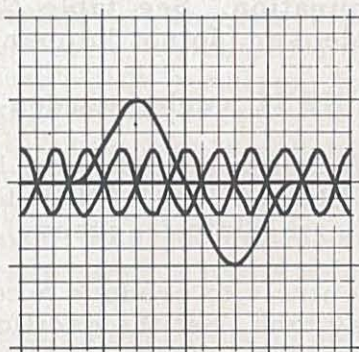

FIG. 11. DISCRIMINATOR RESPONSE - 400 CYCLE MODULATION
10. Turn the SIGNAL SWITCH to MOD. R.F. A pattern similar to figure 11 will appear on the oscilloscope if the discriminator secondary is not aligned perfectly. Reduce the SIGNAL ATTENUATORS to as low a setting as possible with the 400 cycle pattern still showing.